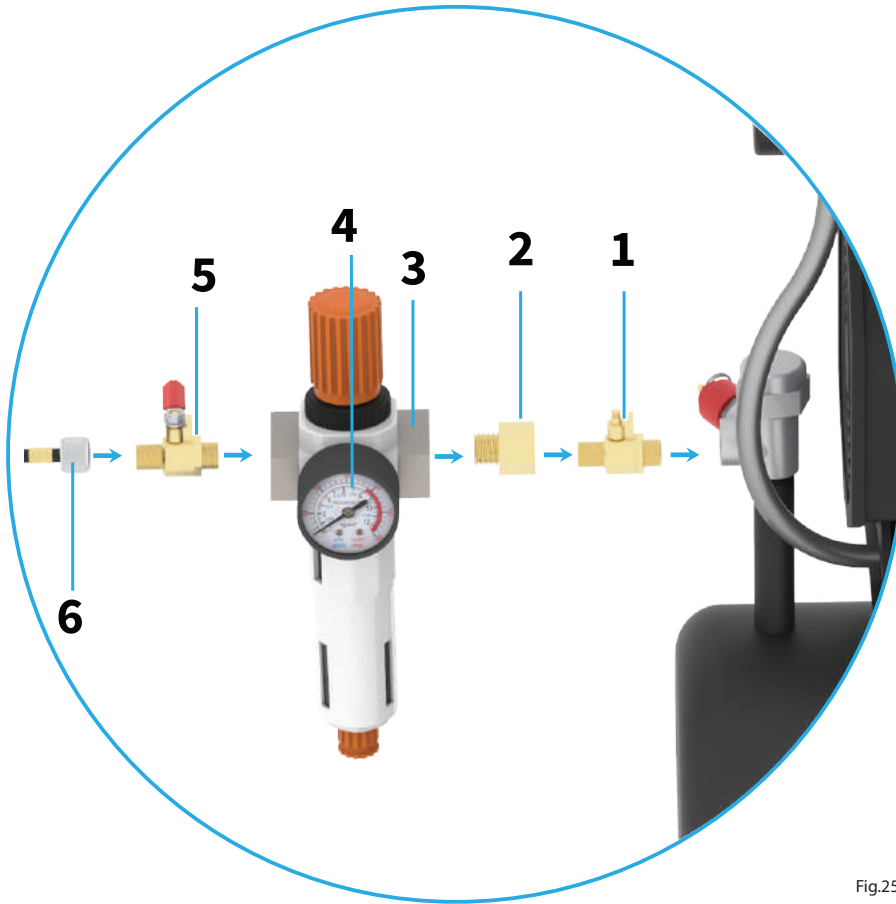

Fig.25
- 5.** Locate the other Open/Close Valve and fasten to the air filter as shown in Figure 25.